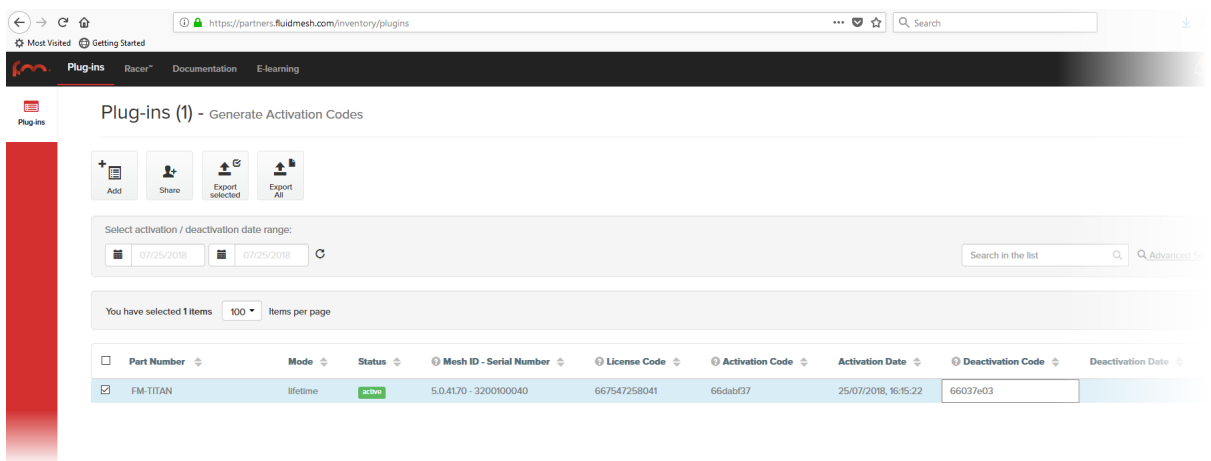

Figure 69. Partner Portal Plug-ins page (deactivation code entry)
8. Enter the Deactivation code for the plug-in in the Deactivation Code field (Figure 69 (page 150)).